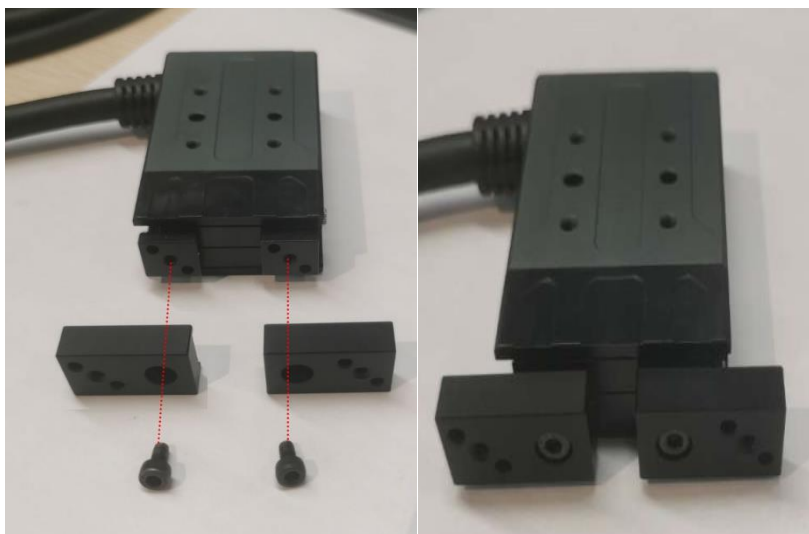

Figure 2.4 Install gripper adapter
Step 2 Install the gripper adapter and tighten the screw, as shown in Figure 2.4 Install gripper adapter